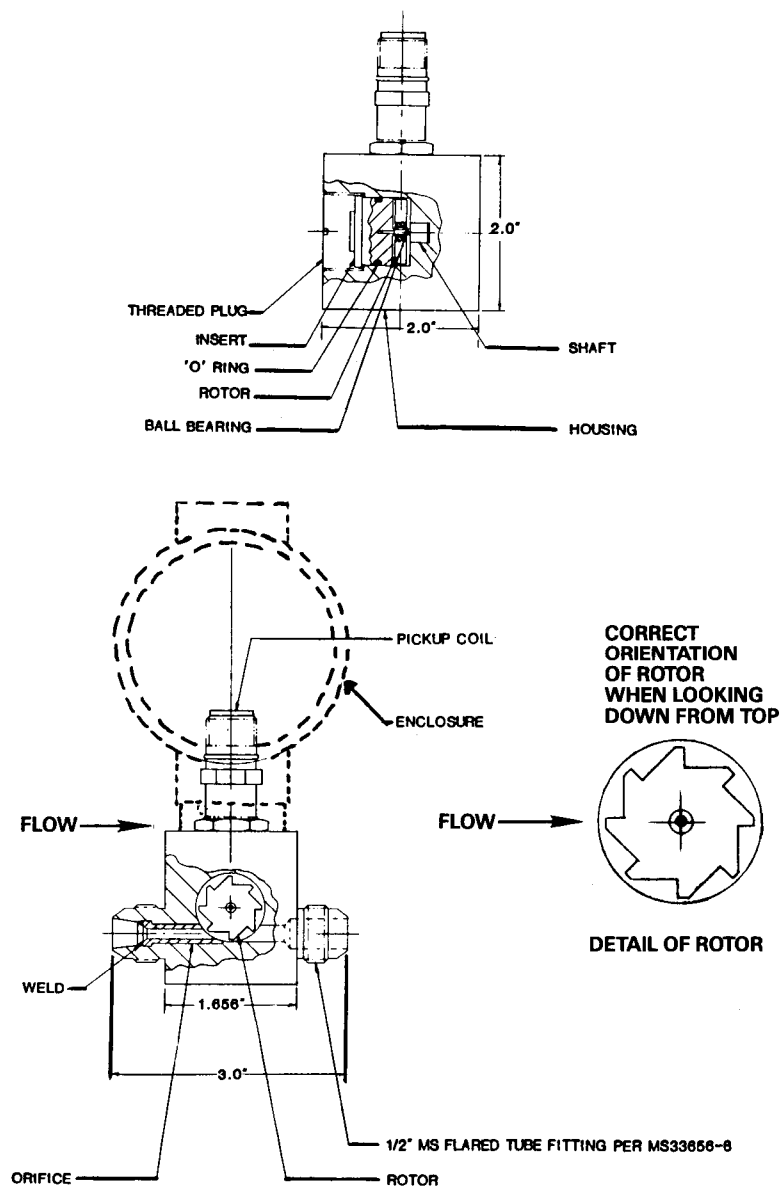

Figure 4-1. Standard Ball Bearing Cutaway Diagram
Preventative maintenance requires that the Mini Flowmeter under go a general inspection. Refer to Figure 4-1 and the following procedure to remove the flowmeter internals from the housing. A clean work area is required.
10. Guide the rotor bearing assembly onto the shaft. Make sure to orient the rotor so the cup side of the pelton wheel faces the IN side of the housing. Refer to Figure 4-1 detail.